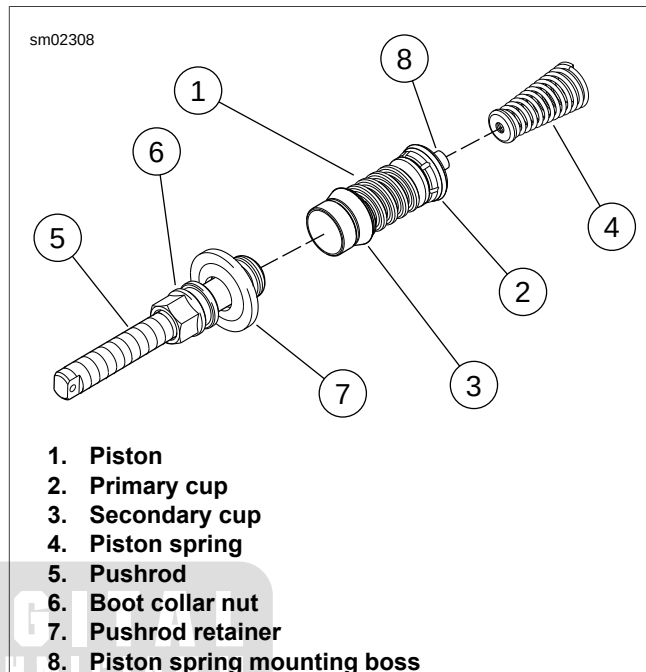

Figure 2-87. Rear Master Cylinder Piston, Pushrod and Spring Assembly
5. See Figure 2-87. Lubricate master cylinder bore, **new** piston (1) with **new** secondary cup (3), and **new** primary cup (2) with CCI #20 BRAKE GREASE supplied in the service parts kit.